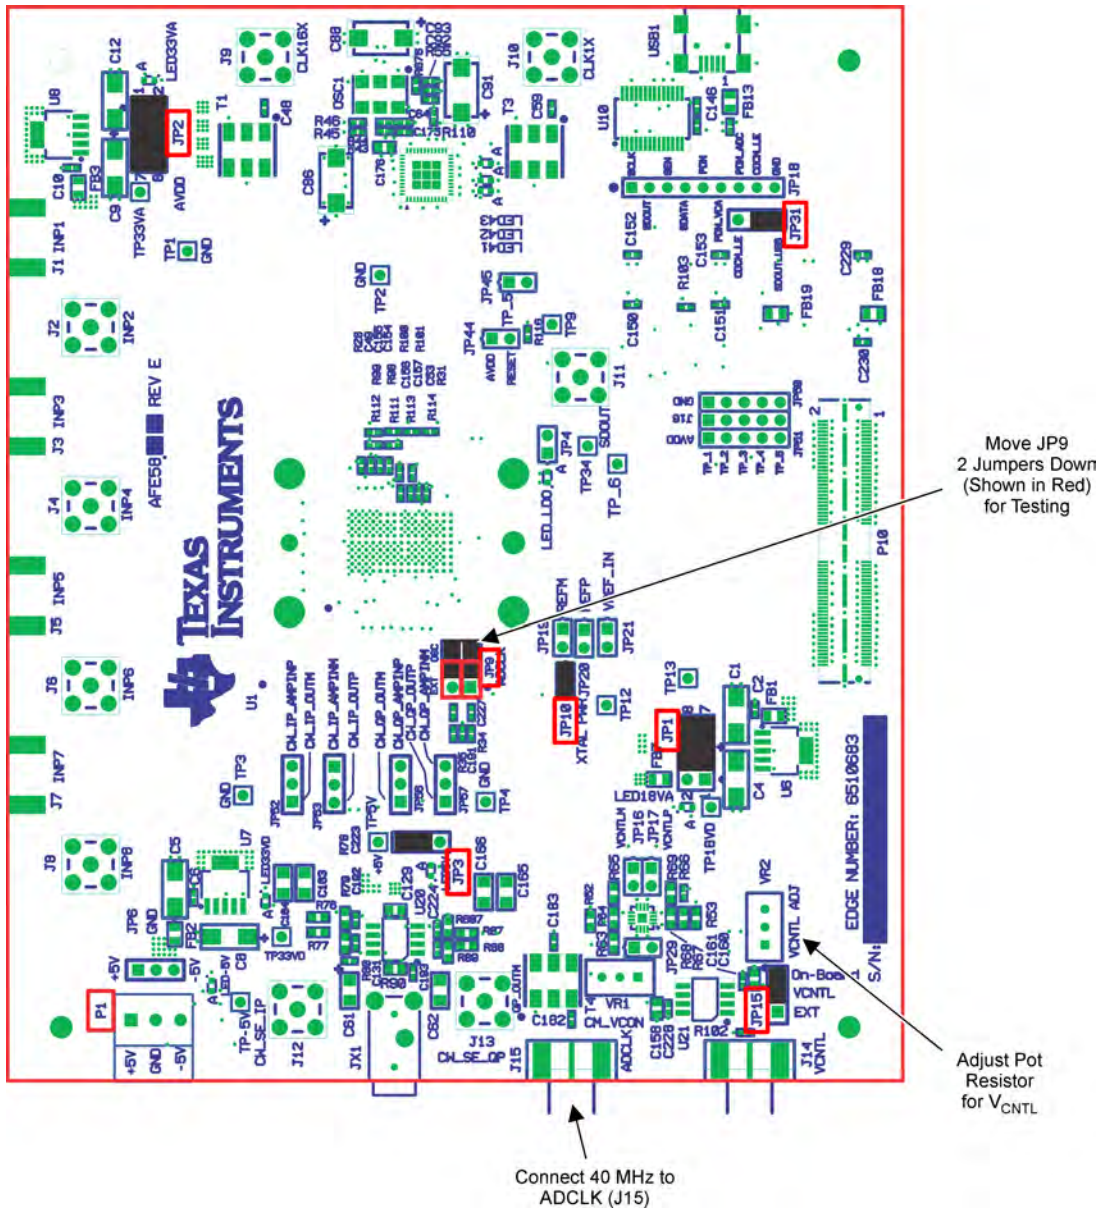

Figure 1. AFE5803EVM Basic Configuration
Figure 1 shows the default configuration of the EVM from the factory. The accompanying list identifies the basic components on the EVM board.
6. JP31 always set as Figure 1.
Two EVMs are required to evaluate the AFE5803 device. The following illustration shows the exact setup of these two boards and external connectors. For the default configuration as shown in Figure 1, it is unnecessary to have an external sampling clock and external Vcntl supply. The onboard CMOS clock and onboard Vcntl are used.
| J1 through J8   | Analog Input signals for Ch1 through Ch8. Connect to a signal generator. A bandpass filter must be applied between the generator and the SMA to get a better result. (See <a href="#">Figure 1</a> .) |